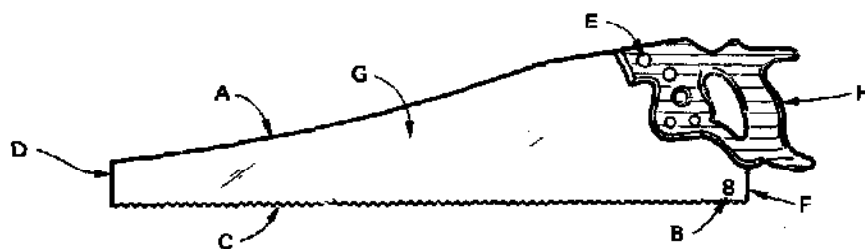

Fig. 6-25
- I. Identify the parts indicated on the saw shown in figure 6-25.
2. How many points are shown on the saw in figure 6-25? How many teeth are shown? Are there always more points per inch than teeth? Explain.